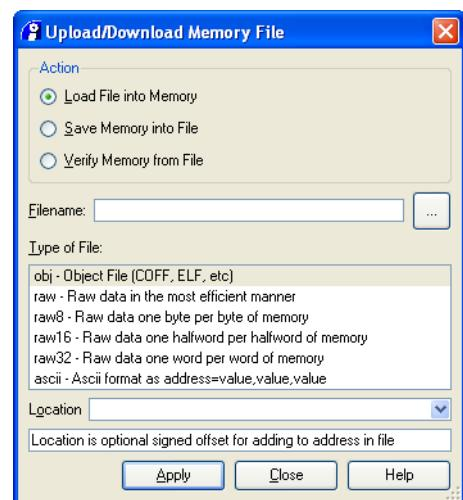

Figure 14-22 Upload/Download file from/to Memory dialog box
1. Select **Debug → Memory/Register Operations → Upload/Download Memory file...** from the Code window main menu to display the Upload/Download file from/to Memory dialog box. Figure 14-22 shows an example: